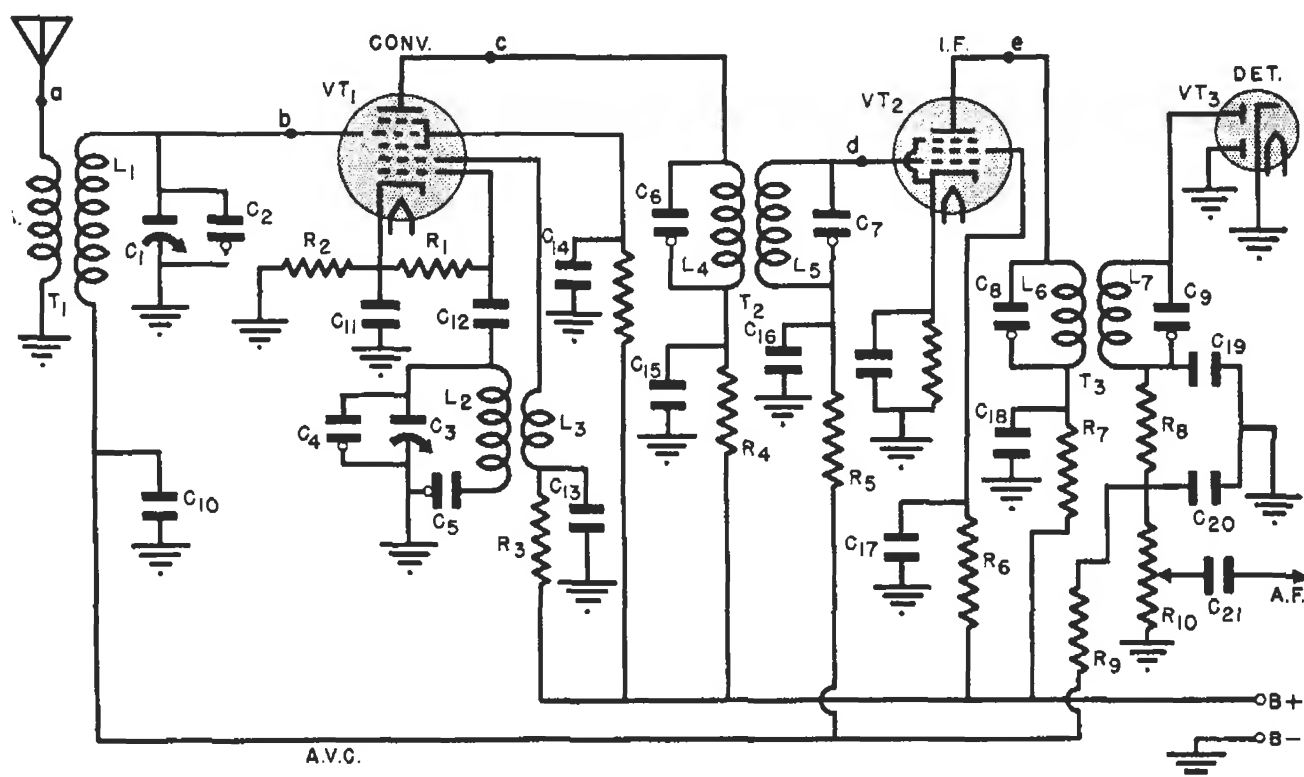

FIG. 6. This single-band superheterodyne diagram shows the connecting points for the s.g.
Step 1. Suppose the receiver is similar to the one shown in Fig. 6. Here we have a single-band, conventional first-detector-oscillator tube stage, followed by an intermediate frequency stage, which in turn feeds into the second detector.
between the control grid of the converter tube (point *b* in Fig. 6) and chassis to align the i.f. section. The receiver is normally tuned to the low-frequency end of the broadcast band, at some point where no local station interference will exist. Furthermore, by tuning the receiver to the low-frequency end of the dial, the tuned circuit L_1-C_1 will not act quite so much as a short circuit to the output from the signal generator.
► In the i.f. amplifier stage shown in Fig. 6, tuned primary and secondary (double-resonant) i.f. transformers are used. These are extensively used in supers, yet other types will be encountered. Transformers having only the primary or only the secondary tuned are often found in the less expensive four-, five- and six-tube supers. No difficulty should be experienced when you run across these units, as the single adjustment per transformer is made for maximum output, as with other i.f. transformers.
The receiver dial is now set at the highest frequency marked on the dial, if it extends to 1600 or 1700 kc., and the generator is set to the same frequency. The oscillator high-frequency trimmer (C_4 in Fig. 6) is then adjusted for maximum response.
In a circuit such as shown in Fig. 6, we should start the alignment with the signal generator connected to point *d*.